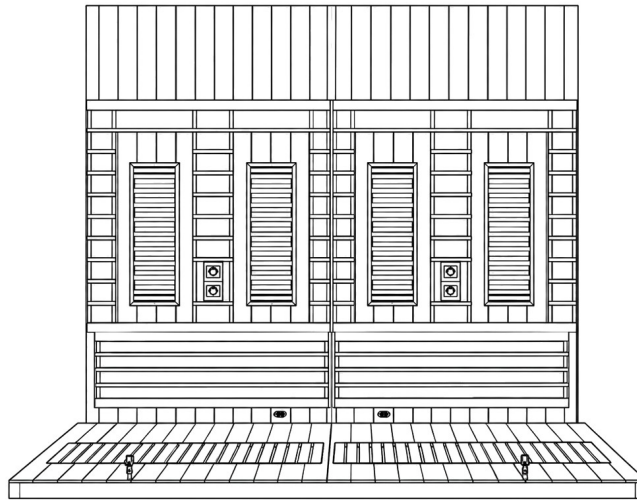

Figure 6. Both Back Panel sections standing on the rear edge of the Floor Panel, seen from the front, with the seam between them closed at the center.
- With two people lifting, raise the Right Back Panel (B2) and align it with the right half of the rear edge of the Floor Panel and with the concealed buckles on the edge of the Left Back Panel (**Figure 6** and **Figure 7**).